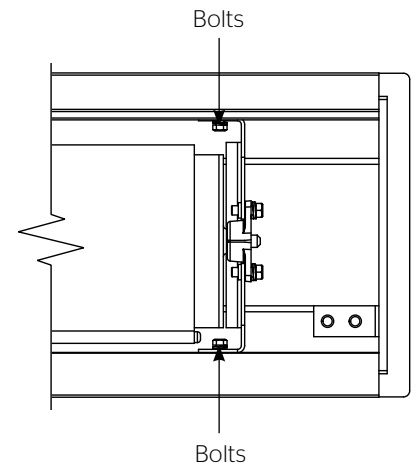

Figure 4
- Use a 1/2" open wrench or socket driver to loosen the four bolts that secure pin end mounting bracket into housing. Lift pin end of roller into position and slide the bracket into the roller pin. Tighten all four bolts. Slide the pin end bracket towards the end of the case (Figure 4).